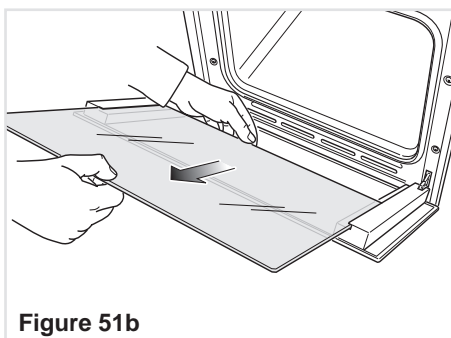

Figure 51b
- Gently pull out the inner pane of glass (fig. 51b).